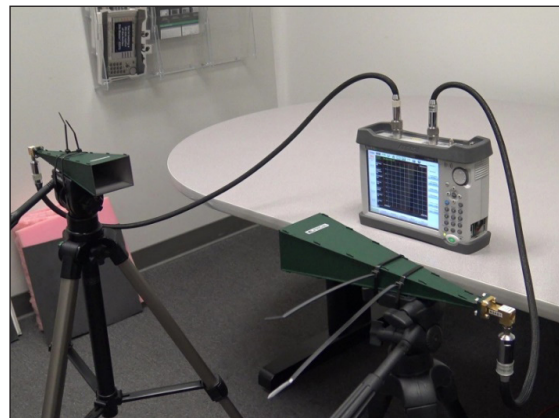

Figure 5. Example of connected setup
- Mount the horn antenna(s) to the tripod(s) securely (wire zip ties work well for this) and adjust them so that both antennas are at the same height. Aim the antennas directly towards each other and space them far enough apart to allow room for the materials to be placed in between. In this example, the antennas were placed 60 cm (~24") apart. While this is a reasonable distance for smaller samples of materials, if a turntable is used to change the angle of the material then this distance should be increased so that the material does not come into contact with the antenna(s) or tripod(s). Distances up to 1 meter should be adequate for the majority of use cases when a turntable is being used (or larger material samples are being measured) and will not significantly impact the dynamic range or accuracy of the measurement. Connect the antenna(s) to the Microwave Site Master S820E test ports using cables and adapters as required. See Figure 5 for an example.